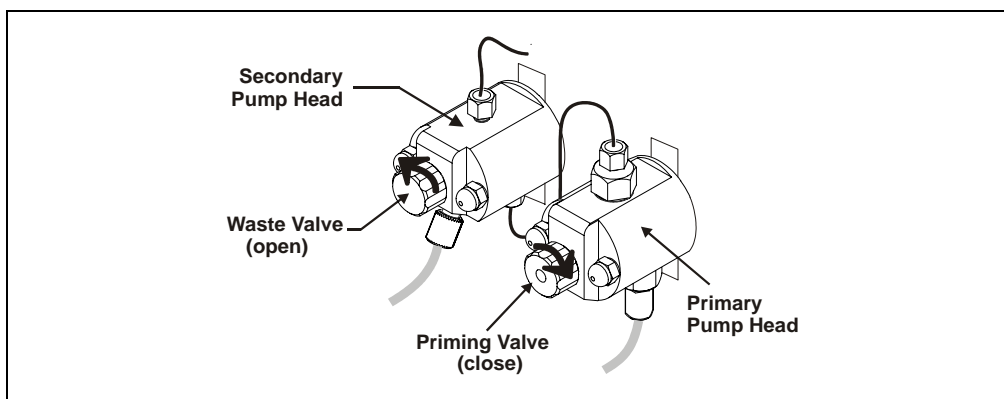

Figure 3-8. Priming the Pump
1. Verify that the priming valve on the primary pump head (see Figure 3-8) is closed (turned all the way clockwise).